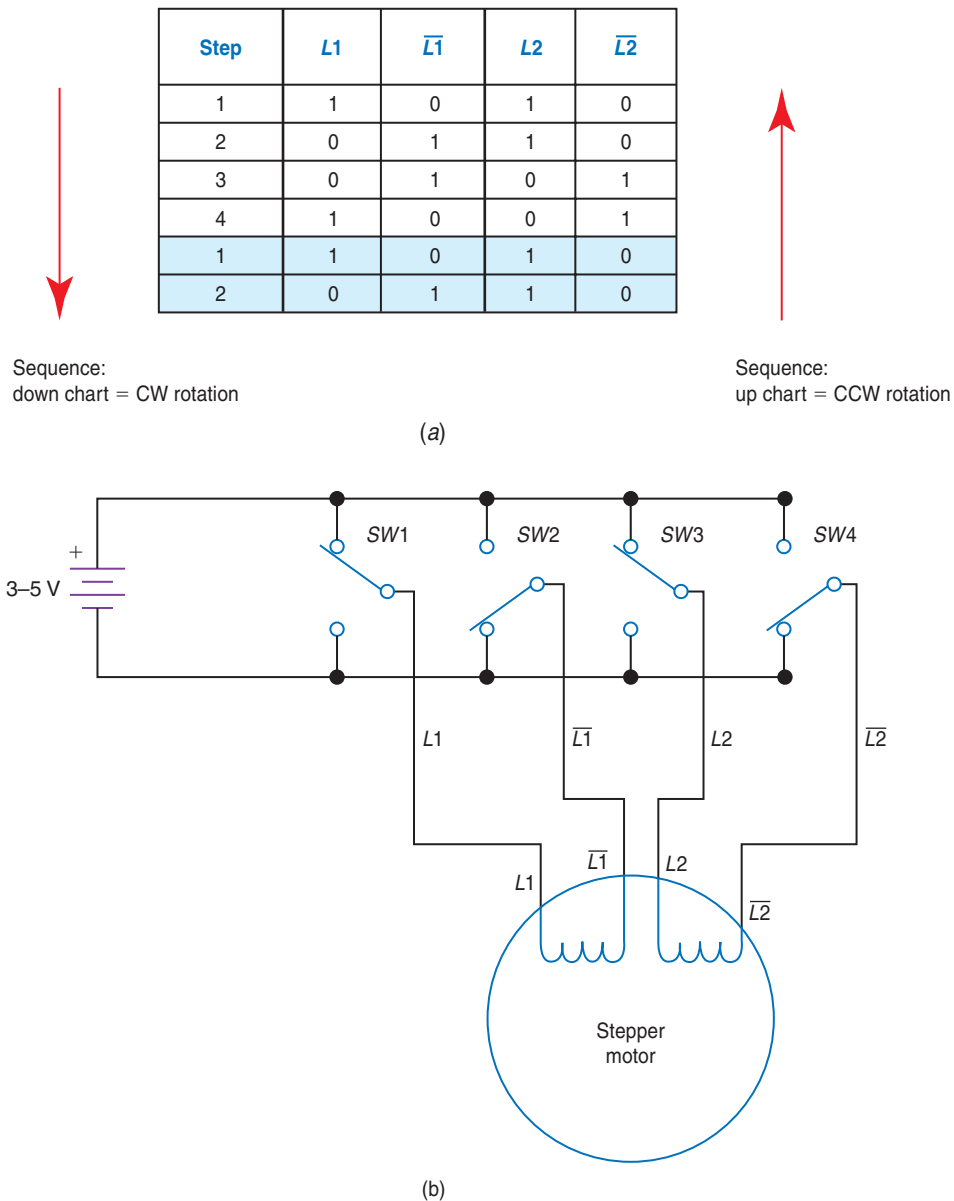

Fig. 5-31 (a) Bipolar control sequence chart. (b) Test circuit for hand checking a four-wire bipolar stepper motor.
The *stepper motor* responds to a standard control sequence. That control sequence for a sample bipolar stepper motor is charted in Fig. 5-31(a). Step 1 on the chart shows coil lead $L1$ at about +5 V, while the other end of the coil ($\overline{L1}$) is grounded. Likewise, step 1 also shows coil lead $L2$ at about +5 V while the other end of the coil ($\overline{L2}$) is grounded. In step 2, note that the polarity of coil $L1/\overline{L1}$ is reversed while $L2/\overline{L2}$ stays the same, causing a clockwise (CW) rotation of one step (18° for the sample stepper motor). In step 3, only the polarity of coil $L2/\overline{L2}$ is reversed, causing a second CW rotation of one step. In step 4, only the polarity of coil $L1/\overline{L1}$ is reversed, which causes a third CW rotation of a single step. In step 1, only the polarity of $L2/\overline{L2}$ has been reversed, causing a fourth CW rotation of a single step. Continuing the sequence of steps 2, 3, 4, 1, 2, 3, and so on would cause the stepper motor to continue rotating in a CW direction 18° at each step.
To reverse the stepper motor's direction of rotation, move upward on the control sequence chart in Fig. 5-31(a). Suppose we are at step 2 at the bottom of the chart. Moving upward to step 1, the polarity of only coil $L1/\overline{L1}$ changes and the motor rotates one step counterclockwise (CCW). Moving upward again to step 4, the polarity of only coil $L2/\overline{L2}$ changes and the motor rotates a second step CCW. In step 3, the polarity of only coil $L1/\overline{L1}$ changes as the motor rotates a third step CCW. CCW rotation continues as long as the sequence 2, 1, 4, 3, 2, 1, 4, 3, and so forth from the control sequence is followed.
In summary, CW rotation occurs when you progress downward on the control sequence chart in Fig. 5-31(a). Counterclockwise rotation occurs when you stop at any step on the chart in Fig. 5-31(a) and then progress upward. The stepper motor is excellent at exact angular positioning, which is important in computer disk drives and printers, robotics and all types of automated machinery, and NC machine tools. The stepper motor can also be used for continuous rotation applications where the exact speed of rotation is important. Continuous rotation of a stepper motor can be accomplished by sequencing through the control sequence quickly. For
instance, suppose you want the motor from Fig. 5-30(a) to rotate at 600 rpm. This means that the motor rotates 10 revolutions per second (600 rpm/60 sec = 10 rev/sec). You would have to send the code from the control sequence in Fig. 5-31(a) to the stepper motor at a frequency of 200 Hz (10 rev/sec $\times$ 20 steps per rev = 200 Hz).
Consider the simple test circuit in Fig. 5-31(b) which could be used to check a bipolar stepper motor. The single-pole double-throw (SPDT) switches are currently set to deliver the voltages defined by step 1 on the control sequence chart in Fig. 5-31(a). As you change the voltage
inputs to the coils as specified by step 2, then step 3, and then step 4, and so on, the motor rotates by stepping in a CW direction. If you reverse the order and sequence upward on the control sequence chart in Fig. 5-31(a) the motor reverses and rotates by stepping in a CCW direction. The circuit in Fig. 5-31(b) is an impractical interface circuit but can be used for hand testing a stepper motor.
in Fig. 5-30 rotates 18° for each clock pulse (each single step). In the *half-step mode*, the stepper motor rotates half of a regular step or only 9° per clock pulse. The *control sequence* used by the MC3479 IC in the full-step mode is shown in chart form in Fig. 5-32(b). Note that this is the same control sequence used in Fig. 5-31(a). The control sequence used by the MC3479 IC in the half-step mode is detailed in chart form in Fig. 5-32(c). These control sequences are standard for bipolar or two-phase stepper motors and are built into the logic block of the *MC3479 stepper motor driver IC*. Specialized ICs such as the MC3479 stepper motor driver are usually the simplest and
68. The chart in Fig. 5-31(a) shows the _____ sequence for a _____ (bipolar, unipolar) stepper motor.
69. Refer to Fig. 5-31(a). If we are at step 4 and progress upward on the control sequence chart to step 3, the stepper motor rotates in a _____ (CCW, CW) direction.